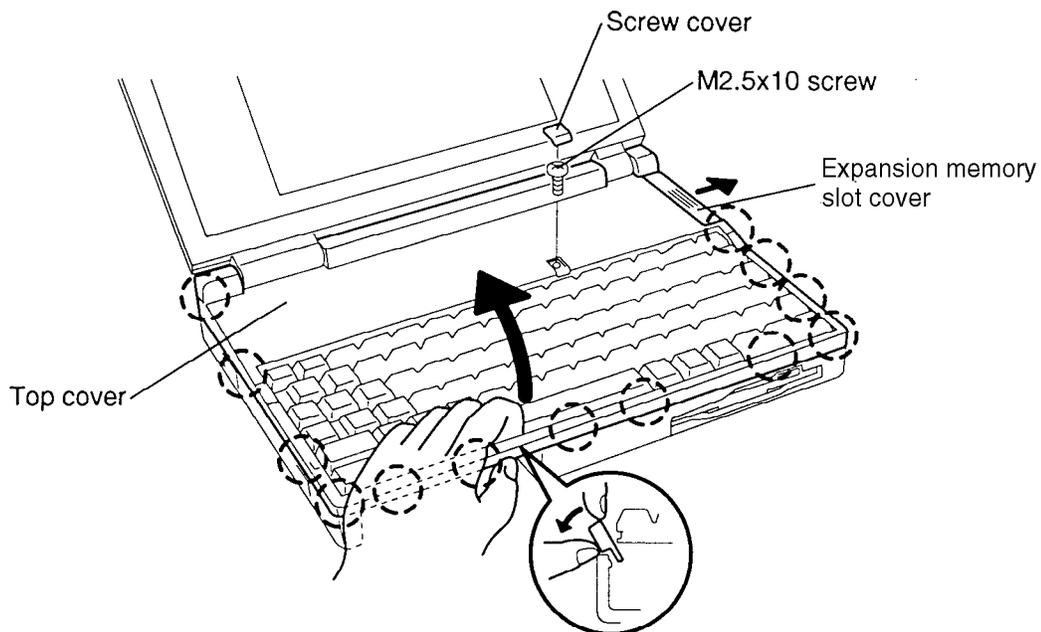

Figure 4-6 Unlatching the Top Cover
5. Open the **expansion memory slot cover** on the right side of the unit (Figure 4-6).
6. Using a jeweler's screwdriver, remove the **screw cover** located above the function keys, then remove the **M2.5x10 screw** (Figure 4-6).
7. Unsnap the **latches** securing the **top cover** to the base assembly. Start by pressing on the front of the **top cover** just in front of the space bar and rotate the keyboard's front edge toward you to release the **front latches** (Figure 4-6).
8. Continue around the rim of the **top cover** until all latches are released, then carefully lift up the **top cover** (Figure 4-6).
**NOTES:** (1) *The latch on the back left corner may catch. To release this latch, gently move the cover back and forth to free it from the chassis.*
2. Begin at the back and snap the **top cover** into place. Continue along the sides and snap the front latches last (Figure 4-6).
3. Secure the **M2.5x10 screw** above the function keys and replace the **screw cover** (Figure 4-6).